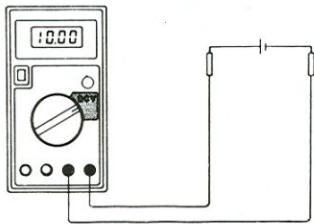

Fig. 5-1 DC Voltage measurement
2. Set the FUNCTION switch to the DC V range to be used and connect the test leads across the source or load under measurement, see Fig. 5-1.